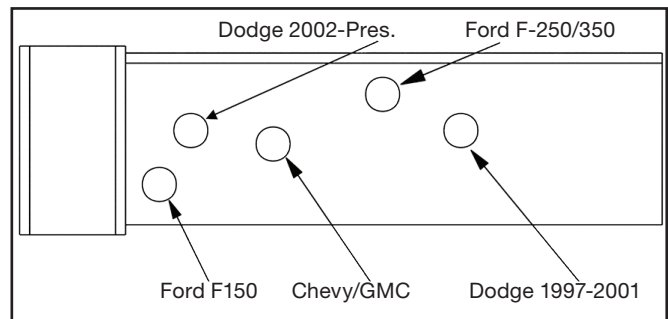

Fig. 1 Bracket, Top View
- 3/4" Open or Socket Wrench (2)
1. Determine which hole on the bracket to be used. Mark the appropriate hole for your vehicle on both brackets. See Fig. 1